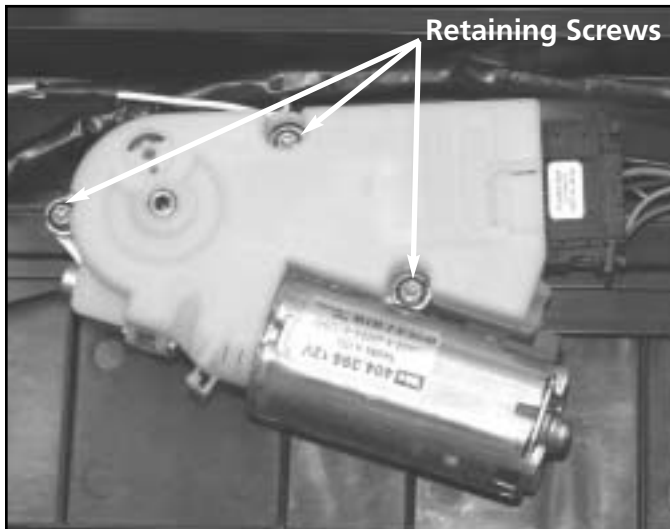

Figure S-42
4. Remove the three (3) T-20 Torx motor retaining machine screws from each of the motor assemblies, disconnect the electrical connectors and remove the motors. Note the position and location of each motor before removal. See figure S-42.
18. Reinstall the motor assemblies in their original position, install the three (3) T-30 Torx retaining screws per motor and reconnect the electrical connectors. Refer back to figure S-42.